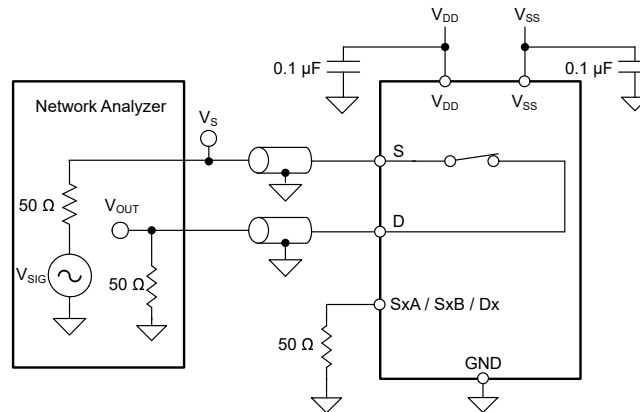

Figure 7-17. Bandwidth Measurement Setup
Bandwidth (BW) is defined as the range of frequencies that are attenuated by < 3 dB when the input is applied to the source pin (Sx) of an on-channel, and the output is measured at the drain pin (Dx) of the device. Figure 7-17 shows the setup used to measure bandwidth of the switch.